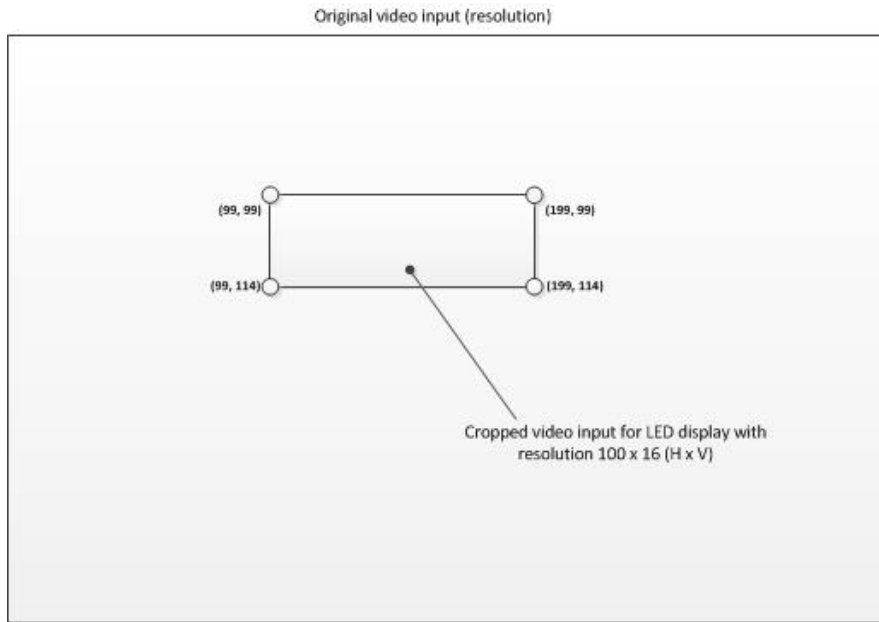

Figure 5. Moved Position of the Cropped 100x16 Video Window for LED Display
The second initialization example will show how to change the position of the cropped video for showing on the LED display. In this example (Figure 5), the top left corner will be placed in (99, 99) position. Other display settings will remain unchanged.
- The last step in this configuration example from the Figure 5 – move of the cropping window